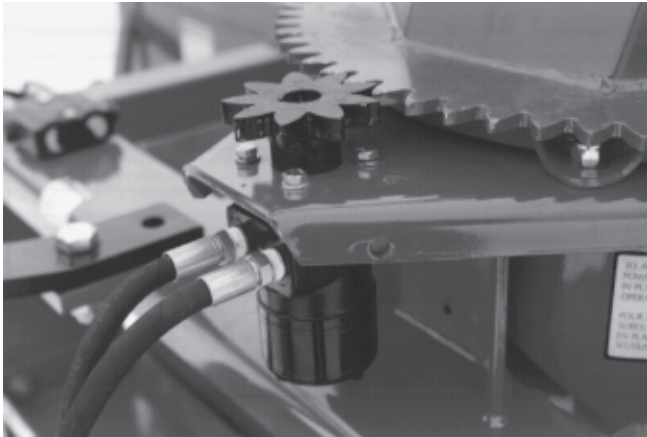

Figure 23
- 2) Install motor and the 9 tooth gear (Fig. 23).